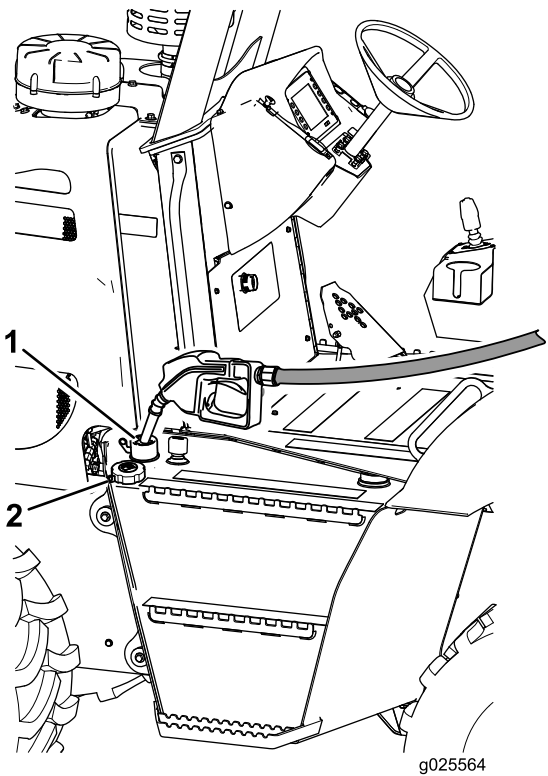

Figure 20
1. Clean around the fuel-tank cap (Figure 20), and remove the cap from the tank.